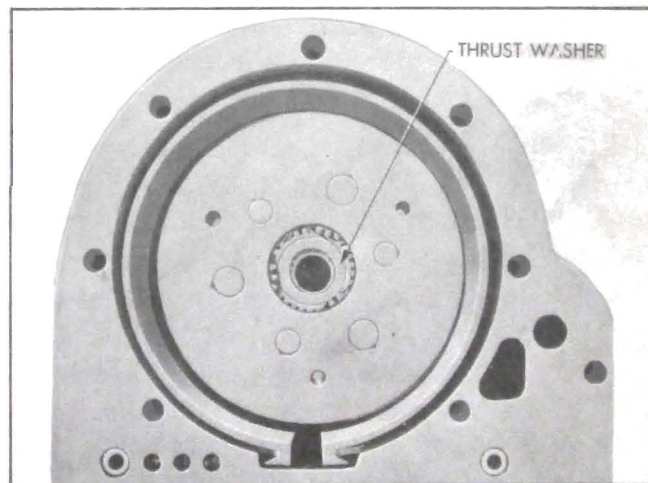

Figure 5-91—Reaction Gear Thrust Washer in Place
5. Reaction gear thrust washers of four different thicknesses are furnished under Group 4.161. Select the one that measures between .114" and .117", and install it over the reverse sun gear with groove toward sun gear. See figure 5-91.
9. If end play is not within the specified limits, remove reaction shaft flange, clutch assembly, and the thrust washer located between the reaction gear and the reverse sun gear. See figure 5-91.